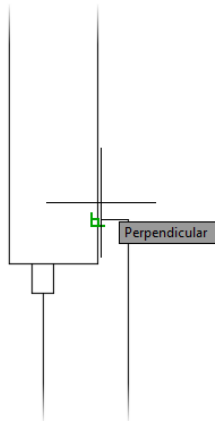

FIGURE 5.7: Use the Perpendicular osnap to draw the final line.
11. When the Perpendicular icon appears on the wall line, as shown in Figure 5.7, click to draw the top edge of the threshold.
T I P When using object snaps to locate points within a drawing, you do not need to select the osnap icon itself. Notice how the cursor in Figure 5.7 is located slightly above and to the right of the point AutoCAD found by using the Perpendicular object snap. Regardless of where you select, a perpendicular line will be drawn to the point highlighted by the Perpendicular osnap icon.